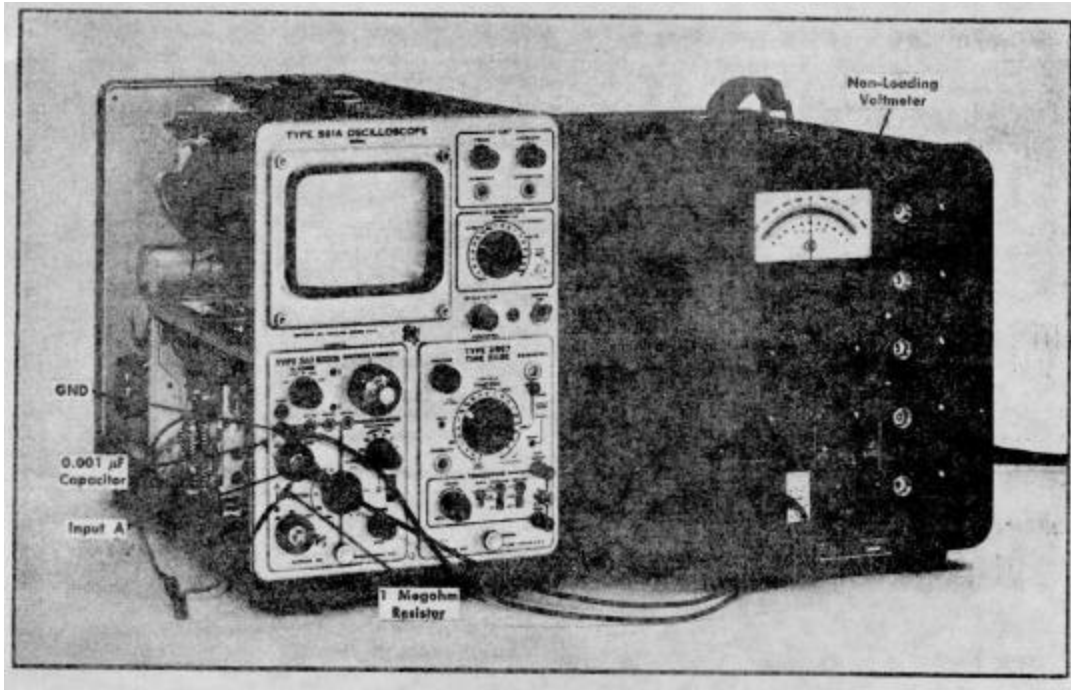

Fig. 5-36. Setup at completion of step 28e.
e. Set the non-loading voltmeter to obtain a null reading (at about 5.5 volts). Fig 5-36 shows the setup.
e. Set the non-loading voltmeter to obtain a null reading (about 5.5 volts). This is the same setup as Fig. 5-36 except the connections are made to input B.